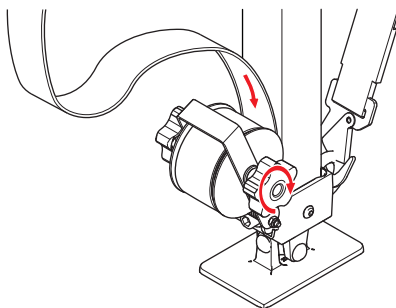

Fig. 16
- Coil the tension belt. Refer to Fig. 16.